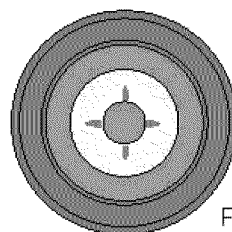

Fig. 3
5. Adjust the inner flame to desired size -Fig. 3.